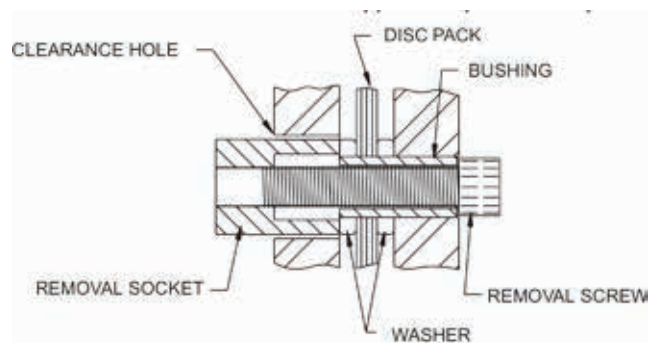

Figure 8. Disengaging bushings from flange.
6.3 Insert the disc pack removal socket into one of the disc pack clearance holes as shown in Figure 8 (counter bore first), install the removal capscrew and turn it until it cannot be tightened any more.